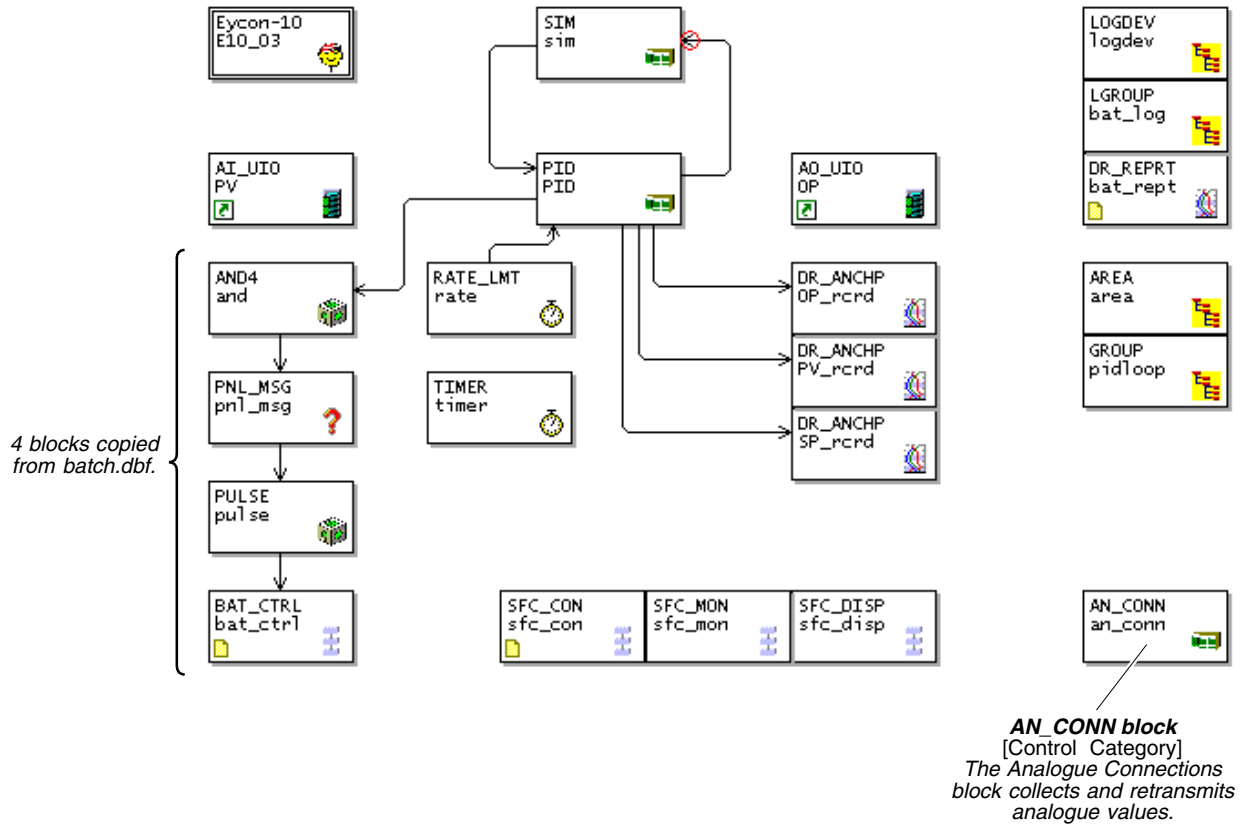

Figure 8-7 Adding batch and recipe to the sequence strategy
To enable the sequence to drive the batch engine you will add batch (and recipe) functionality to the existing sequence strategy. The quickest way to do this is to copy and paste the required blocks from an earlier strategy into the new one. Figure 8-7 shows the result you are aiming for.
- 3 In the 'batch.dbf' window, multiple-select the **LOGDEV**, **LGROUP**, **DR\_REPRT**, **RCP\_SET**, and **RCP\_LINE** set of five blocks. Copy and paste them onto the 'seq.dbf' window in the positions shown in Figure 8-7. You can do this either by using <Ctrl-C> (copy) and <Ctrl-V> (paste), or simply by dragging the selection from one window to the other.